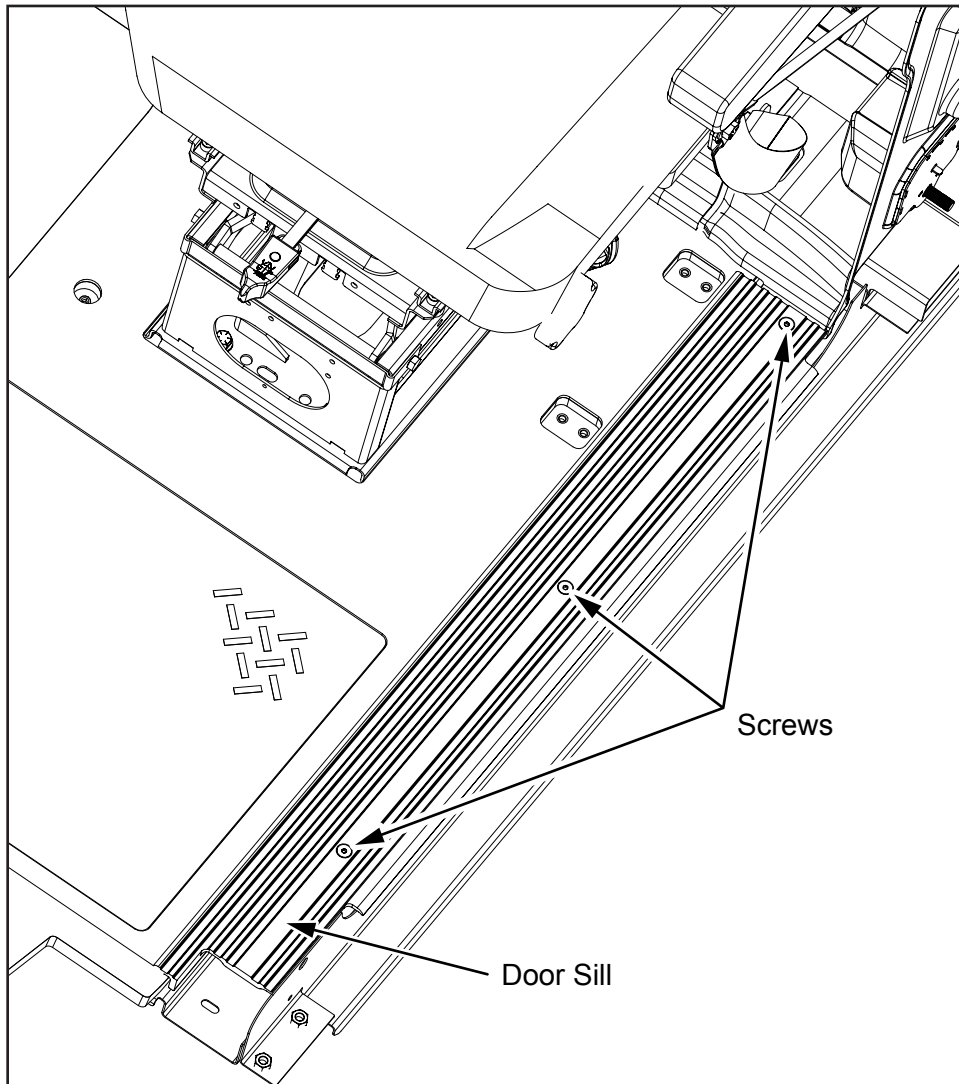

Figure 5
6. Remove (3) 1/4" screws from the door sill and set aside the door sill and the screws for reinstallation. Repeat step 6 for the opposite side (see Figure 5).